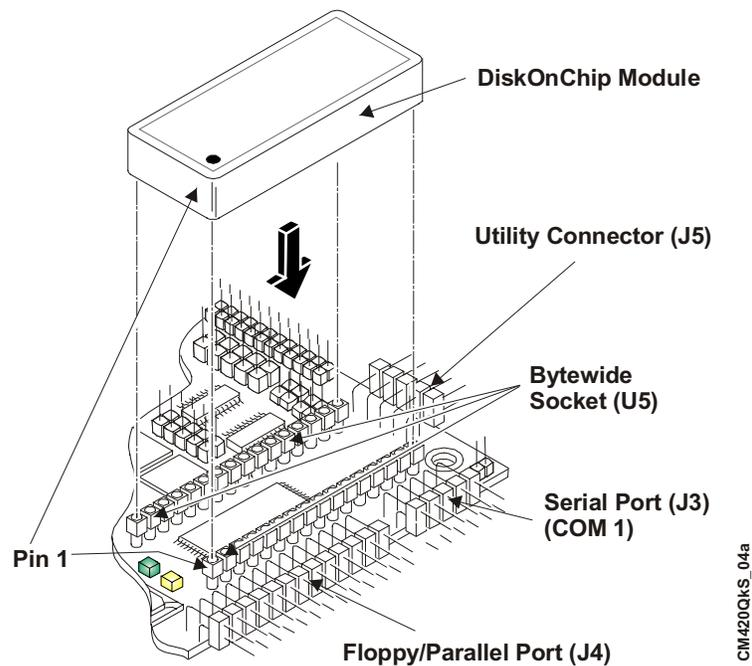

Figure 2-1. Installing DiskOnChip
4. Align pin one of the bytewise socket (U5) with pin 1 of the DiskOnChip. See Figure 2-1.
5. Gently insert the DiskOnChip into the bytewise socket (U5) as shown in Figure 2-1 and gently rock it side to side, while pressing down, until it is firmly into the bytewise socket (U5).